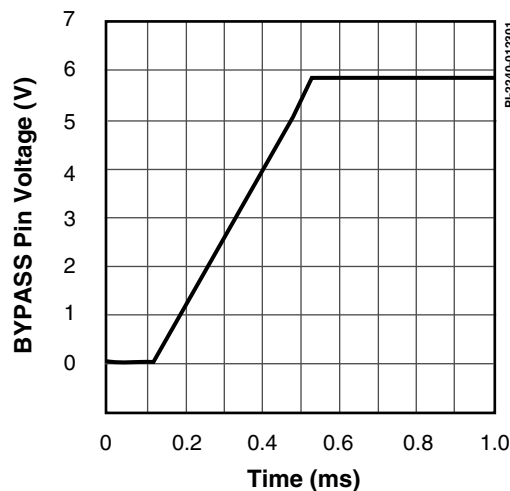

Figure 14. BYPASS Pin Start-up Waveform.
- C. See Typical Performance Characteristics section Figure 14 for BYPASS pin start-up charging waveform.